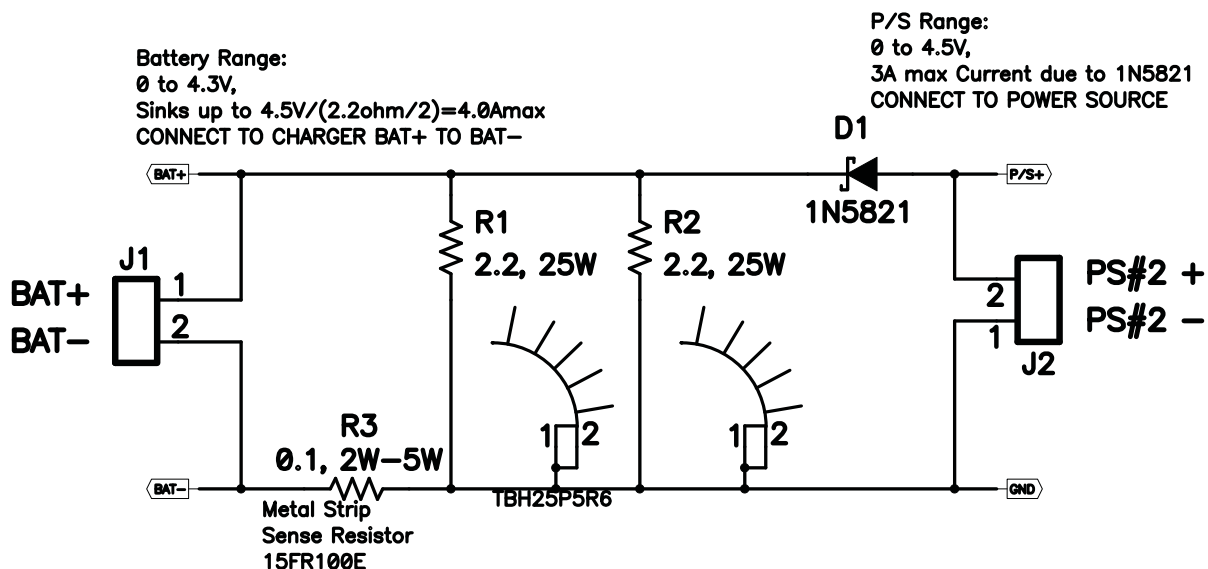

Figure 7. BAT_Load (PR1010) Schematic
2. If not using a battery as the load, then power supply #2 (PS #2) capable of supplying up to 5 V at 5 A is required to power the circuit shown in Figure 7.
Testing with an actual battery is the best way to verify operation in the system. If a battery is not available, then a circuit similar to the one shown in Figure 7 can simulate a battery when connected to a power supply.